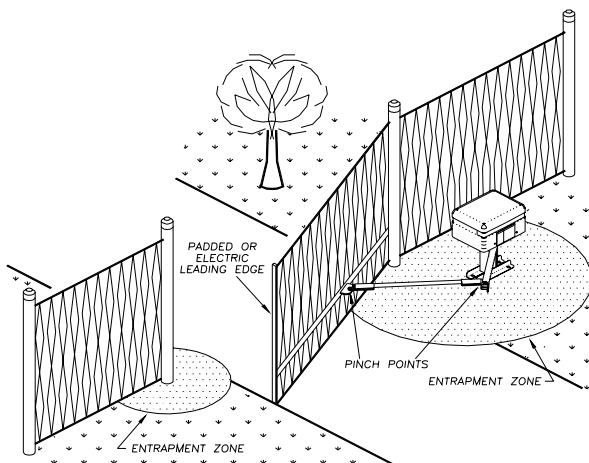

Figure 3: Entrapment Zones and Pinch
- Use the illustration at left (Figure 3) to minimize the risk of injury in your design of the swing gate operator system. **IDENTIFY THE ENTRAPMENT ZONES AND PINCH POINT AREAS IN YOUR GATE.** Design the gate installation to minimize the risk of entrapment in these areas. Install additional safety equipment such as four wire edges and photocells to further minimize risk. All entrapment zones are required to be protected.
- **Entrapment Zones:** Design in personal entrapment protection devices to protect people from entrapment in the zones shown in Figure 3 at left.
- **Pinch Points:** Use protective measures (guards, padded edges, etc.) to protect people from the pinch points shown in Figure 3 at left.
- SWING GATES HAVE THE POTENTIAL HAZARD OF HANDS AND FINGERS BEING PINCHED between the gate edge and the post to which the gate is mounted. It is recommended that the hinges be mounted so that this opening increases as the gate swings open. **PROTECT THIS "PINCH POINT" SO THIS HAZARD IS MINIMIZED.** See Figure 3.
- CONSIDER ALL OTHER "PINCH POINTS" IN YOUR DESIGN of the gate system. Observe the arm as it opens and the two arm pieces swing past each other. Use protective measures to reduce hazards at this location. Restrict access to the arm motion. See Figure 3.